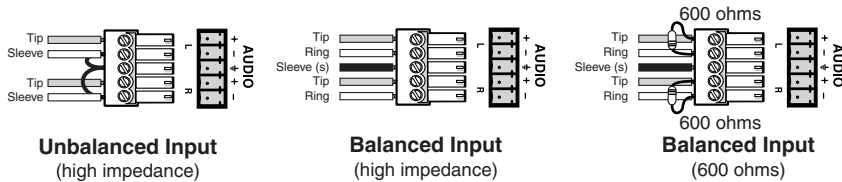

Figure 2-8 — Captive screw connector wiring for input
- ⑥ **3.5 mm, 5-pole captive screw connectors** — Connect balanced and unbalanced stereo audio inputs to these sockets using connectors which are included with each MMX SVA switcher (you must supply the audio cable). See figure 2-8 for an illustration on how to wire a connector for the appropriate input type and impedance level.